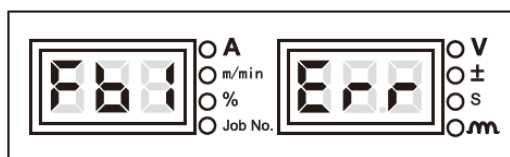

Figure 3-42 Screen for query about failures
1. Enter the internal menu, adjust the knob on the panel of welding power source to **FB1** as shown in Figure 3-42.